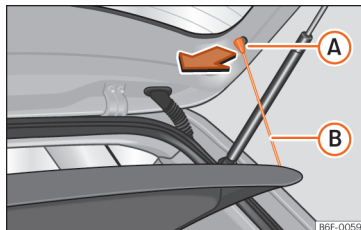

Fig. 162 In the boot: removing and installing the shelf.
- Detach the cord loops »» Fig. 162 **A** from their hooks **A**.
- Hook the loops »» Fig. 162 (B) to the rear lid.